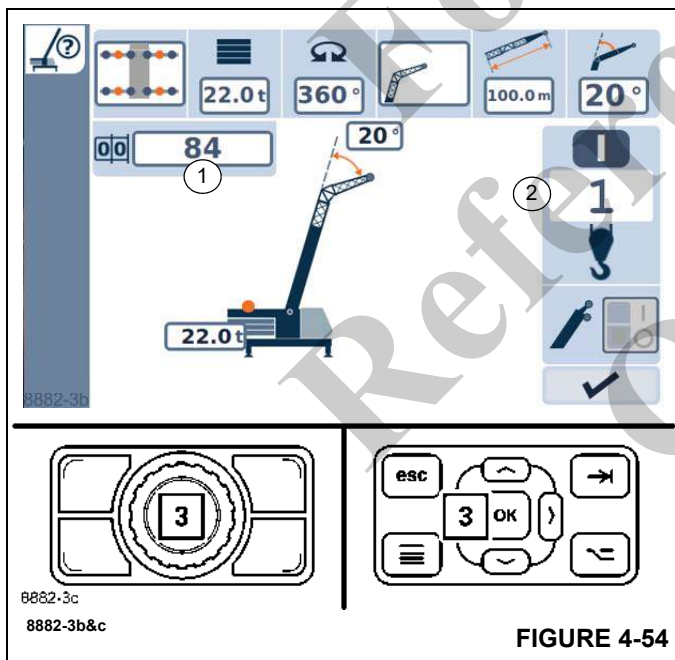

FIGURE 4-54
The last set rigging mode will be displayed, and symbols (1), (Figure 4-54) and (2), (Figure 4-54) will be green and flashing.
- Press button (3), (Figure 4-54) once – symbols (1), (Figure 4-54) and (2), (Figure 4-54) will stop flashing.